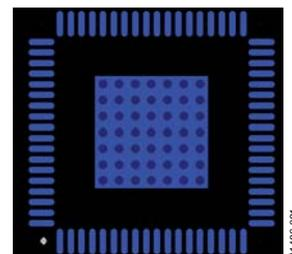

Figure 85. Exposed Pad Layout Example—Top View
- Place vias such that all layers of copper are connected, allowing efficient heat and energy conductivity. See Figure 85, which shows 49 vias arranged in a 7 × 7 grid in the pad area.